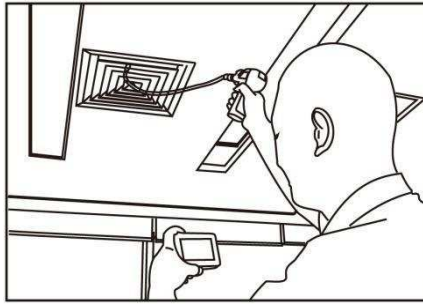

Fig. 12
- (5) Use the supplied accessories to provide application flexibility.
- (6) Connect the supplied video-out cable to video-out port of the tool and the other end of the cable to the video-in port of a TV to view a high quality real-time image.
- (7) Detachable 3.5" TFT-LCD wireless monitor allows for remote inspection up to 32ft (10m) from the measuring point (**Fig.12**).